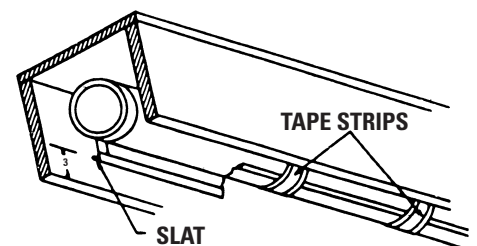

FIGURE 3
7. Carefully remove tape strips securing picture surface around roller. Slat pocket should move freely (Fig. 3).